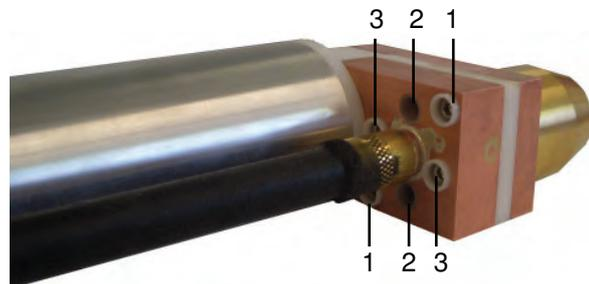

Fig. 2: torch body
- 3) Slacken the two M3 mounting screws (Fig.2, no. 3) and remove the plasma nozzle. CAUTION: do not lose O-rings
- 4) Slacken the two M3 casing screws (Fig.2,no.1). Push the upper and lower sections of the torch apart far enough (without unscrewing the hose connections) and remove the main insulator, the insulating bush for powder channel and the ceramic insulating sleeve. CAUTION: ceramic insulating tube is very fragile